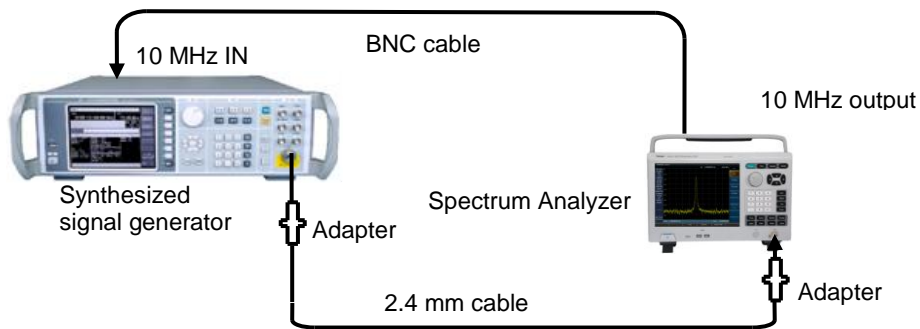

Fig 11-13 Image, Multiple, and Out-of-band Response Testing setup
1) Connect the test instrument as shown in Fig 11-13. The spectrum analyzer provides a reference frequency for the synthesized signal source.